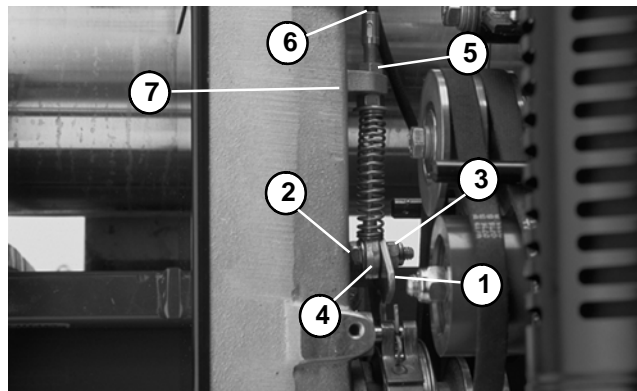

Figure 5
3. Remove brake cable from the countershaft housing as follows (Fig. 5):
- 4. Run new brake cable to the countershaft assembly. Install new brake cable to the countershaft housing and brake lever as follows (Fig. 5):